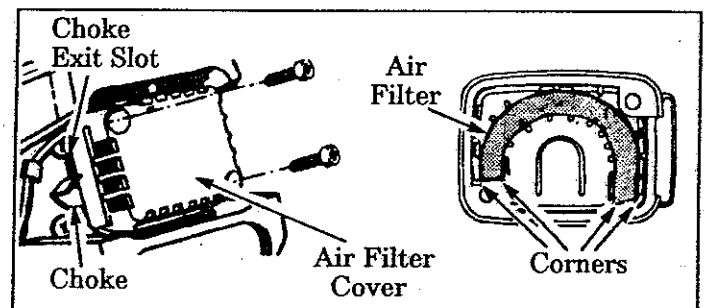

Figure 27
- a. Loosen the two Screws on the Air Filter Cover enough to remove the Cover from the Engine. Figure 27 .
- b. Remove the Air Filter from the Cover. Figure 27 .
- e. Reinstall the Air Filter Cover, making sure the Choke Exit Slot (Figure 27) is placed over the Choke Lever.